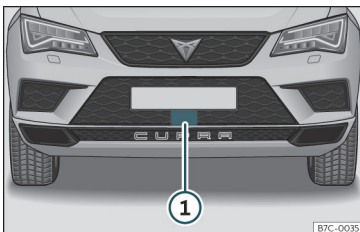

Fig. 211 On the front bumper: radar sensors.
A radar sensor is installed on the front bumper to determine the traffic situation >>> **Fig. 211** ①.